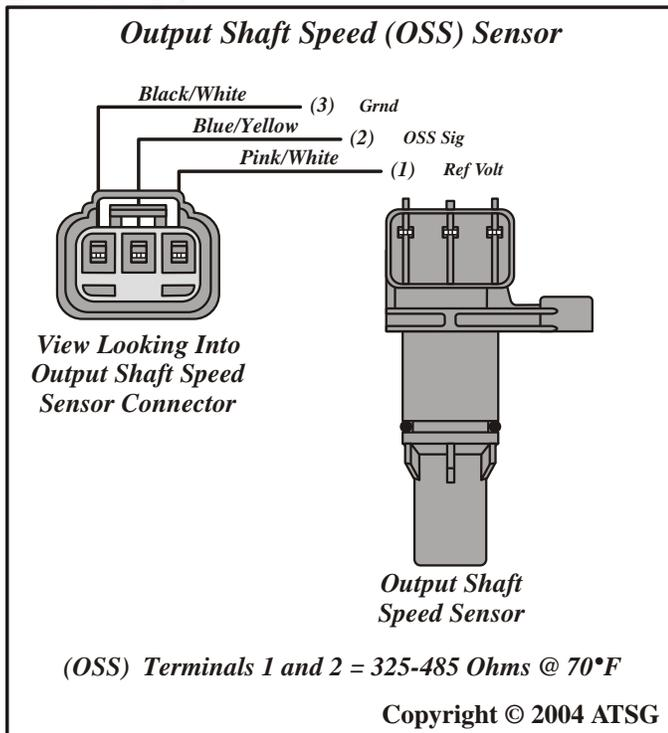

Figure 186
49. Check the output shaft speed sensor, as shown in Figure 186.